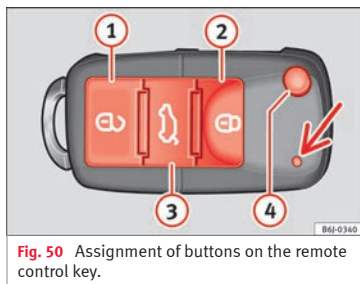

Fig. 50 Assignment of buttons on the remote control key.
By using button **4** » **Fig. 50** on the control, the key shaft is released.
Unlocking the vehicle **2** » **Fig. 50** **1**.
Locking the vehicle **1** » **Fig. 50** **2**.
Unlocking the rear lid. Press button **3** » **Fig. 50** **3** until all the turn signals on the vehicle flash briefly. When the unlocking button **3** is pressed, you have 2 minutes to open the door. Once this time has passed, it will lock again.
Moreover, the battery indicator on the key » **Fig. 50** (arrow), will flash.
When the button  » **Fig. 50 ①**, is pressed once, the driver door is unlocked, all others remain locked.
Press the button  » **Fig. 50 ①** twice to unlock all doors.
- Press the  » **Fig. 50** button on the remote control.